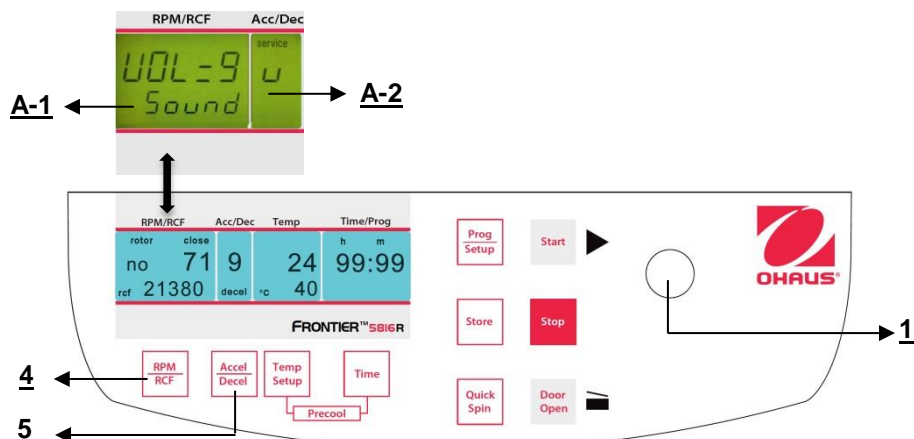

Figure. 33
Proceed as described under point 4.1.1 to enter this program mode and then press the key "Accel/Decel" (5). In the display "Acc/Dec" (A-2) the word "Service" flashes. Now select the letter "U" with the adjusting knob (1). As a result, in the display "RPM | RCF" (A-1) the words "Vol=0- 9/Sound" appear. After pressing the key "RPM | RCF" (4), you can adjust the desired volume between 0 (low) and 9 (loud) with the adjusting knob (1) (See figure 33). After you have stored the settings (see 4.1.1) you can change back to the normal program mode again by switching off the centrifuge for a short period.